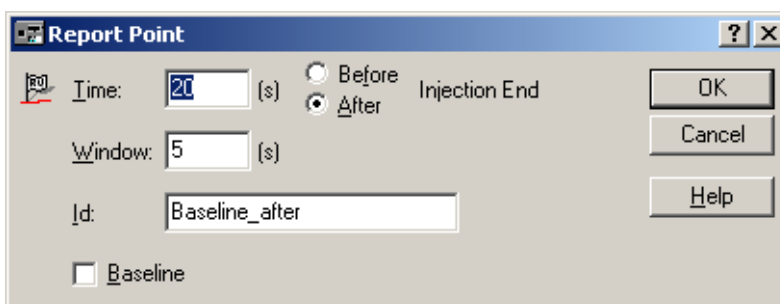

Figure 4.8
4.4.9.2 Type in information as shown in the Report Point window (Fig. 4.8)